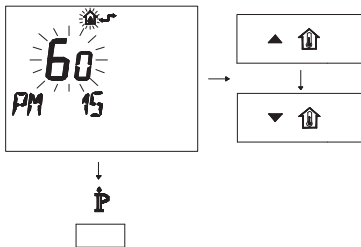

Fig. 7.14
- Modify the programmed SET by acting on buttons ▲ ⏮ or ▼ ⏮ until a **setting of 60** is displayed, wait for the number programmed to flash (Fig. 7.14)